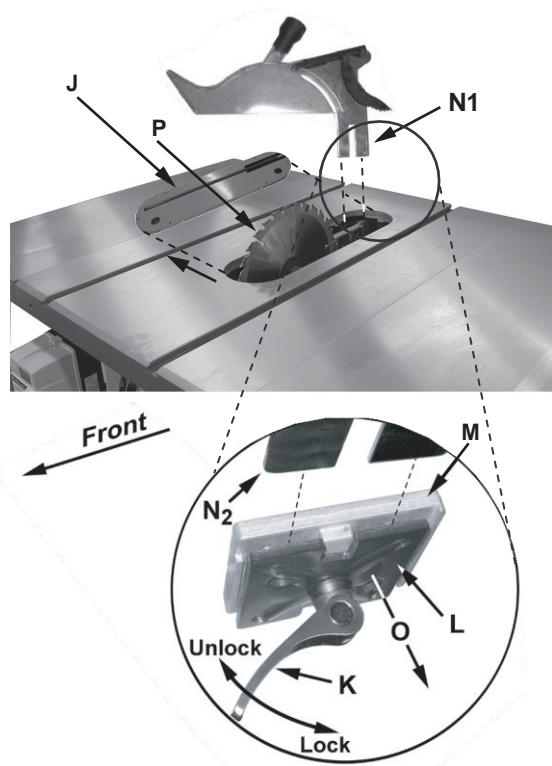

Figure 8
4. Rotate the arbor to line up the *slot* (C) with the *arbor lock* (D).
5. Press the *arbor lock* (D) in the direction shown by the arrow to engage it into the *slot* (C) in the *arbor*. At the same time remove the *arbor nut* (A), loosening with a 27mm wrench if necessary.
6. Remove the *collar* (B).
7. Install the blade, making sure the cutting teeth at the top of the blade point toward the front of the saw. If unsure, refer to Figure 8 for the proper blade orientation.
8. Replace the *collar* (B) and *arbor nut* (A).
9. Engage the *arbor lock* (D) and tighten the *nut* (A) with a 27mm wrench.
Referring to Figure 8:
2. Remove the table insert (J).
3. Located inside the table and accessible through the insert opening (Figure 8 inset), place the quick-release clamp lock handle (K) in the unlock position.
4. The floating clamp block (L) is spring loaded and will move away (O) from the fixed block (M), leaving a gap.
5. Insert the bottom of the riving knife (N1, N2) all the way into the gap between the *clamp blocks* (L, M); then lock the *handle* (K).
6. Replace the *insert* (J) back on the table. The saw blade and riving knife should protrude through the slot in the insert.
The clamping blocks (L, M, Fig. 8) are adjusted at the factory and no further adjustment of the blade guard and riving knife assembly should be necessary. However, **proper alignment is very important**. Before operating the table saw, read *Riving Knife Adjustment* (p.14) to verify and follow the adjustment procedure if necessary.